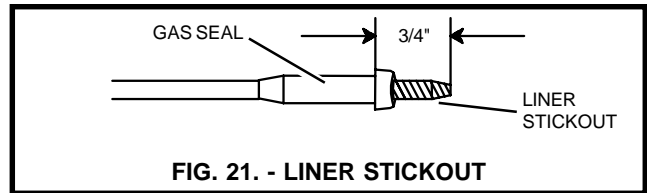

FIG. 21. - LINER STICKOUT
3. Adjust the liner stickout length to 3/4" as shown in FIG. 21.